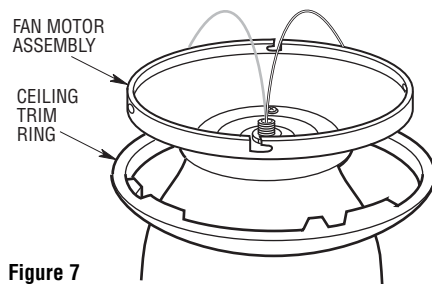

Figure 7
- 4. Slide the ceiling trim ring over the fan motor assembly and let it rest on the motor assembly (Figure 7).